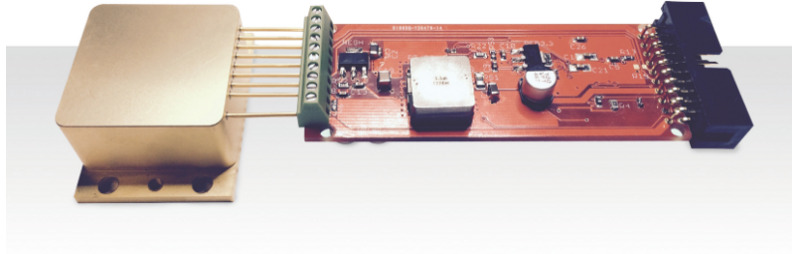

Figure 5.7.: S-2 OEM configuration with HHL.
- The S-2 pulser can be shipped as a bare circuit as shown in Fig. 5.7 for integration, or integrated in a 75 mm×42.75 mm×22 mm eloxed aluminium box for laboratory usage.